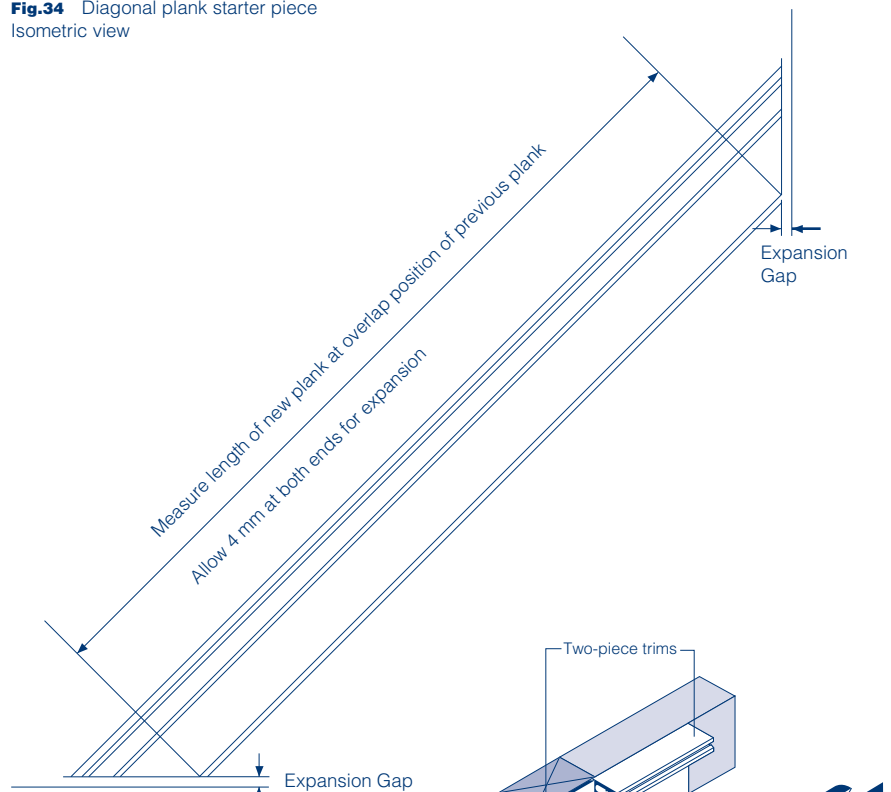

Fig.35 Cutting intermediate planks to length
- Measure and cut carefully to length and angle of mitre before fitting (Figure 35).